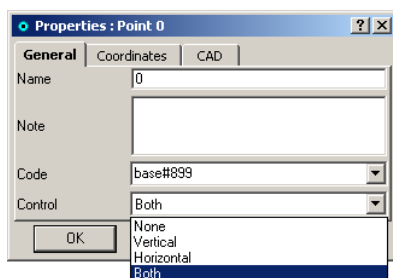

Figure 4-77. Point Properties – General Tab
2. On the **Properties** dialog box, click the *General* tab (Figure 4-77).